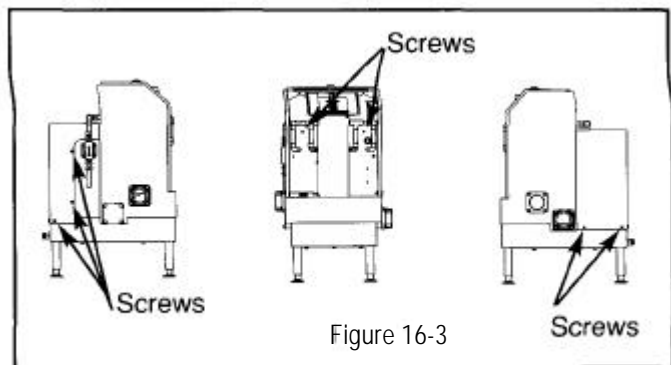

Figure 16-3
7. Remove rear panel by removing the screws securing it in place (see figure 16-3).